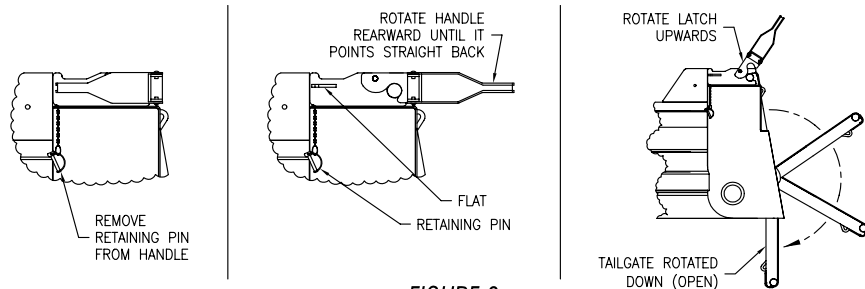

FIGURE 3
- Rotate the handle upwards and open as shown in Figure 3.